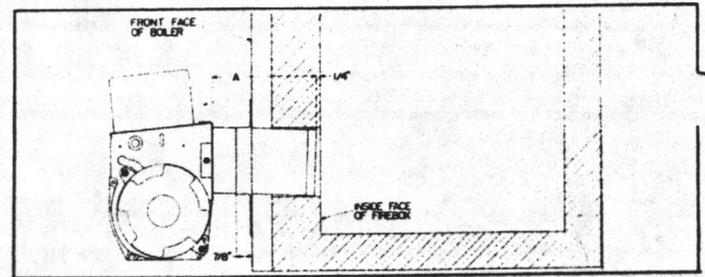

FIG. 1
• **Mounting dimensions:** The air tube should be mounted on a (2) two degree downward pitch. (Refer to FIG. 1) If a *Beckett* flange is used the tube will automatically have the correct pitch.
The air tube length is determined by the insertion depth of the appliance. (Refer to FIG. 1)
The "head" end of the tube must be 1/4" back from the inside wall of the combustion chamber. Never allow the tube to extend into the chamber. (Refer to FIG. 1)